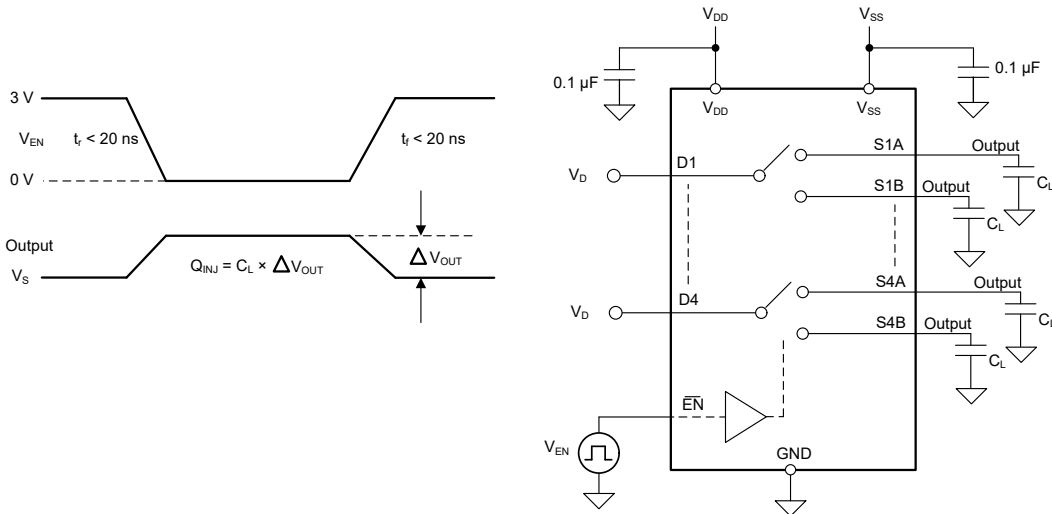

图 6-9. Charge-Injection Measurement Setup
The TMUX7234 has a transmission-gate topology. Any mismatch in capacitance between the NMOS and PMOS transistors results in a charge injected into the drain or source during the falling or rising edge of the gate signal. The amount of charge injected into the source or drain of the device is known as charge injection, and is denoted by the symbol Q_{INJ} . 图 6-9 shows the setup used to measure charge injection from source (Sx) to drain (D).